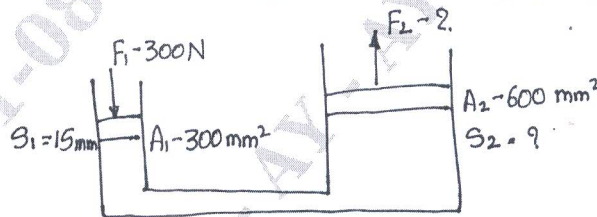

Fig.Q1(b)
- b. Define Pascal's law and solve the following problem. [Refer Fig.Q1(b)]